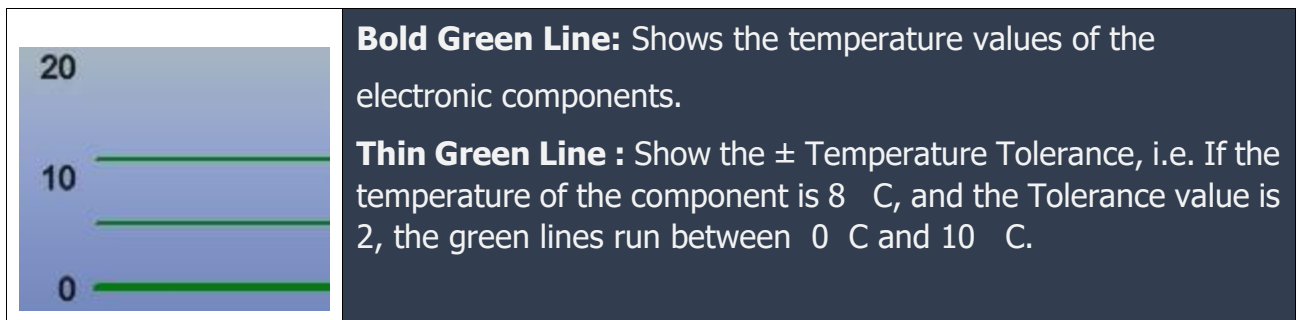

Figure 41: Adjusting the Voltage and Current (Step 1)
1. The maximum operating Voltage and Current of the circuit is adjusted using the scroll bars. (Figure 41)